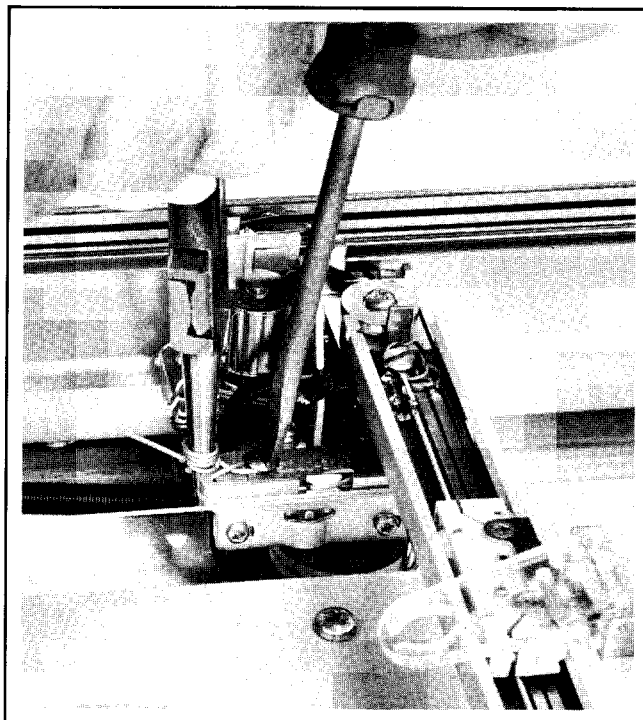

FIGURE 3-11. X-AXIS CABLE TIGHTENING
- q. Make stringing taut. To make taut, grasp end of cable with a pair of long nose pliers placing several turns around end. Using motor block for support, continue wrapping cable around pliers until cable is taut (see Figure 3-11).